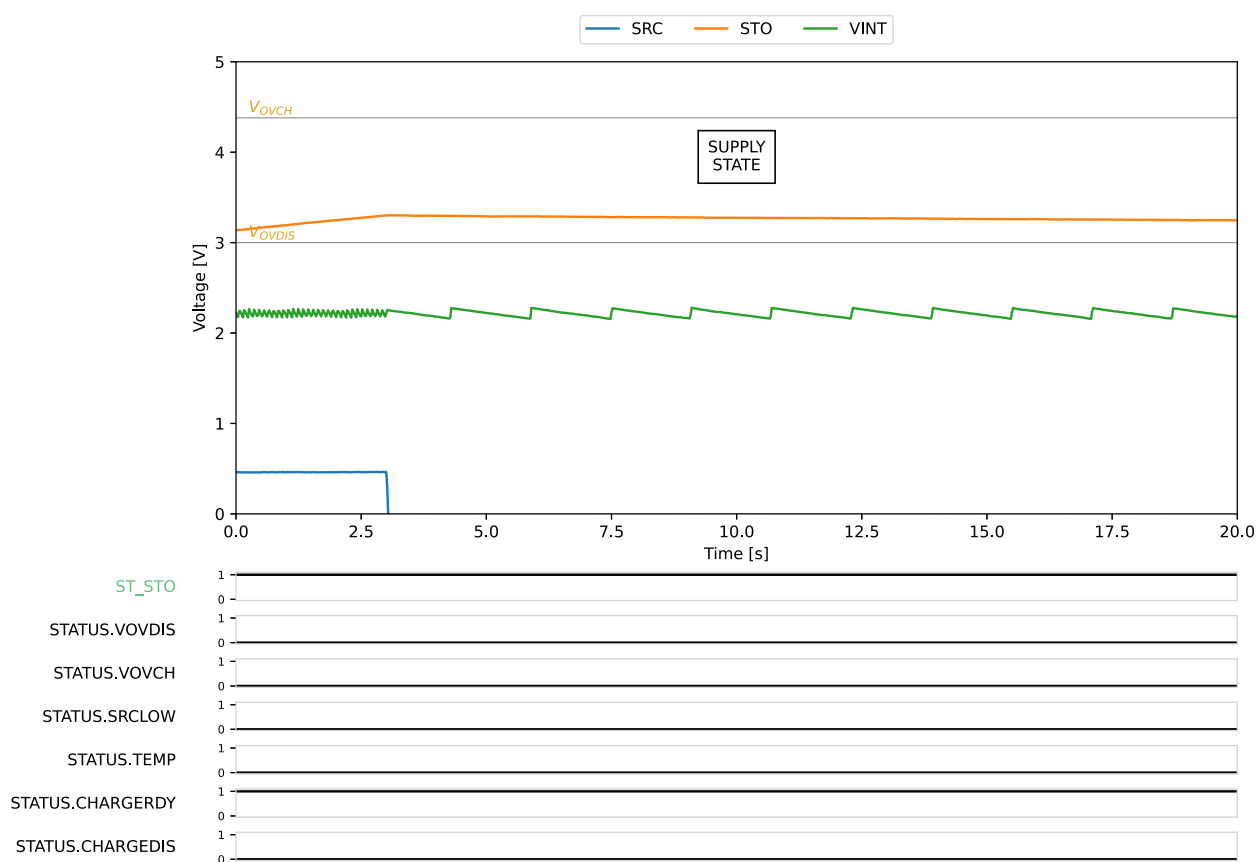
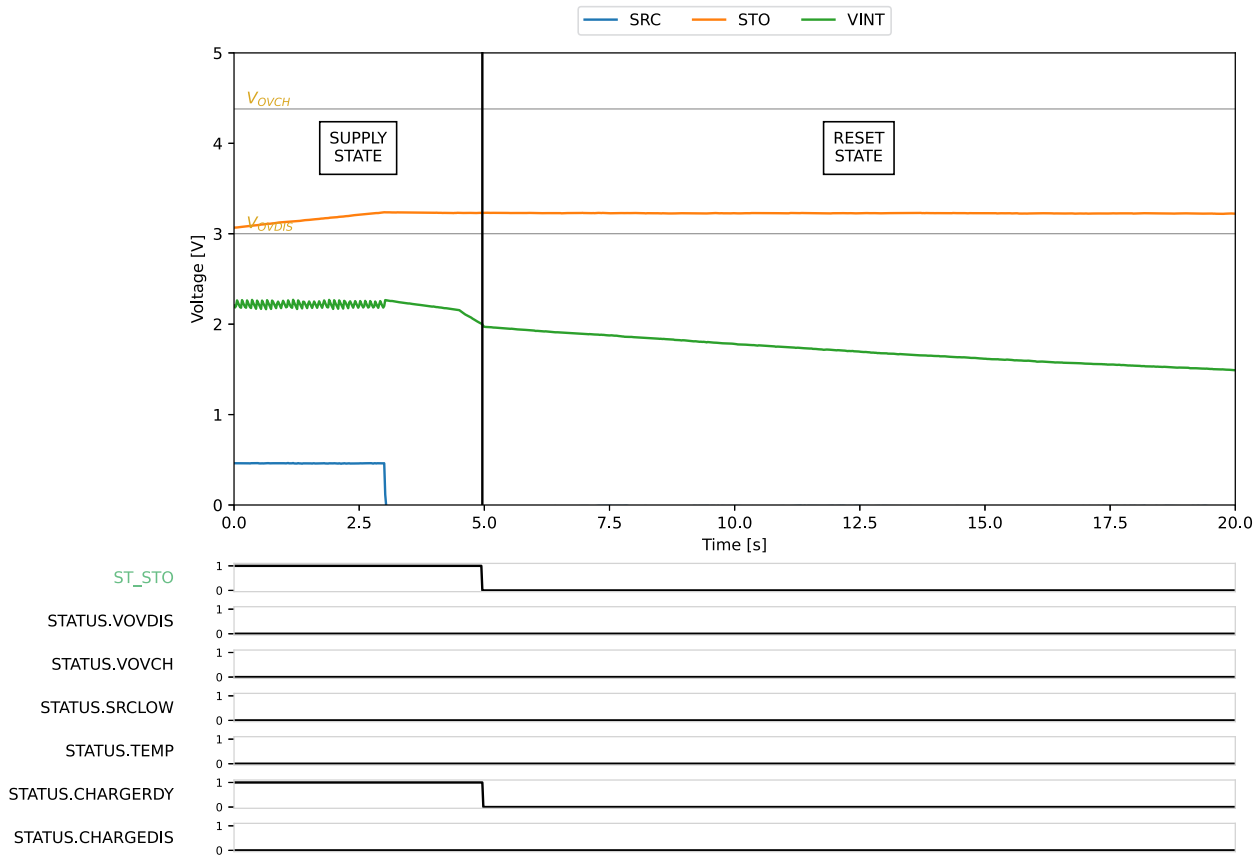

Figure 19: KEEP_ALIVE HIGH behavior
Figure 20: **KEEP_ALIVE** LOW behavior
- KEEP_ALIVE: is enabled on Figure 19 and disabled on Figure 20.
- **KEEP_ALIVE** = H (Keep-alive enabled, Figure 19): **VINT** keeps being supplied from the storage element connected to **STO**. The AEM0090x will be able to harvest again as soon as power is restored to the **SRC** pin. On the other hand, a small current is pulled from the storage element (I_{QSLEEP} , see Table 5).
- **KEEP_ALIVE** = L (Keep-alive disabled, Figure 20): **VINT** can only be supplied from the energy available on **SRC**, so as soon as the power source is switched off, **VINT** stops being supplied. Once **VINT** falls below $V_{INT,RESET}$, the AEM0090x switches to **RESET STATE**, so that no current is pulled from the storage element. The stored energy is thus preserved. On the other hand, when power is restored to the **SRC** pin, the AEM0090x must perform a cold start to resume harvesting.